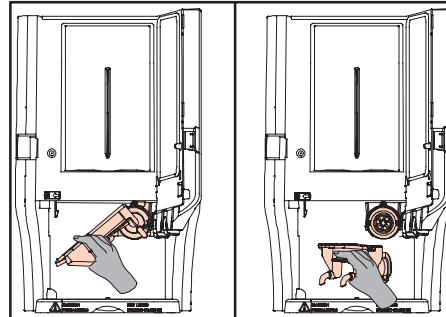

Fig. 51 Remove trough
15. Rotate this part further downwards, until you can pull the complete trough out of the right-hand mounting towards you (fig. 51). The trough disappears from the display.